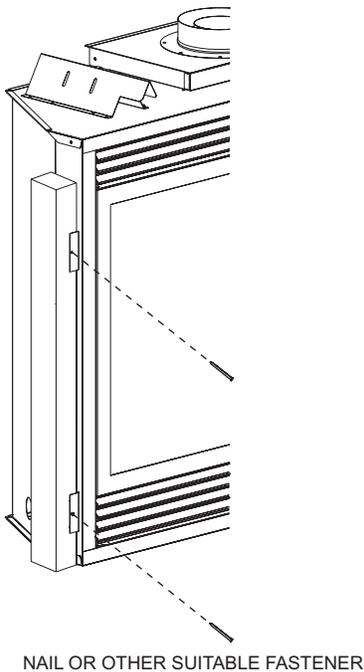

Figure 10
Flush Mount Mantel Installation (Figure 10)
The fireplace must extend 3/4" beyond finished wall surface when using a flush mount mantel. Refer to Figure 10 to locate nailing flanges on fireplace sides. Mark and drill two (2) 1/8" holes into fireplace side to mount each nailing flange. Use eight (8) 1/2" hex-head screws supplied in hardware package to attach nailing flanges to fireplace sides.